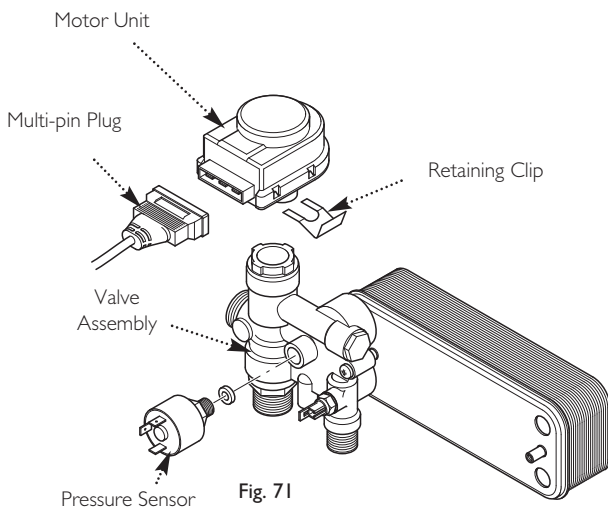

Fig. 71
13.19 Diverter Valve - Motor Unit & Assembly (Fig. 71)